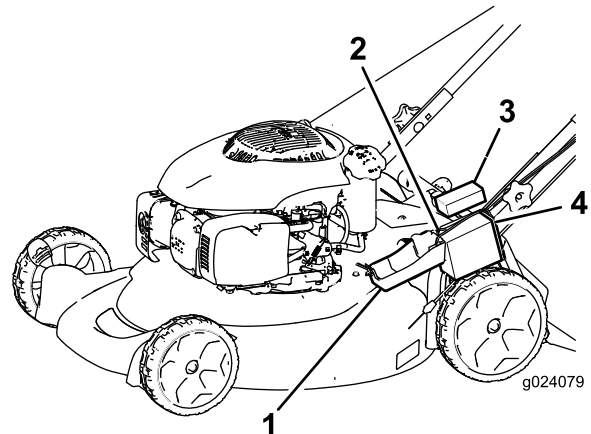

Figure 26
1. Unclip the battery cover and remove it (Figure 26).